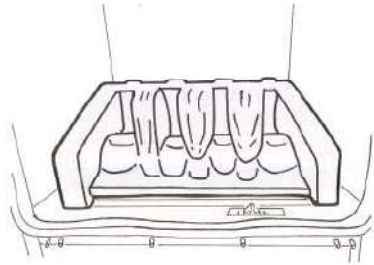

Figure 21 – Rear Ceramic
1. Position the rear burner ceramic in position behind the rear burner flange, as shown in (Figure 21).